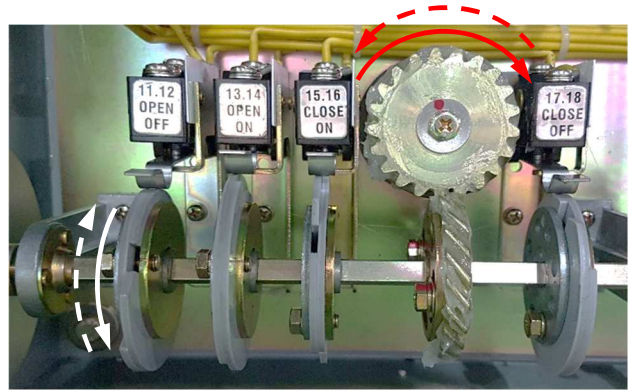

Fig.5 : Position limit switch
(4) Position Limit Switch
- In case that ⑫output shaft drive ⑬cam shaft drive gear, screw gear which is connected to reverse side, ⑭cam shaft rotate output shaft at the same time, and operate micro-switch after rotating equal number of ⑮position limit switch cam which is connected into cam shaft.
- As figure 5 arrangement, arrangement procedure is left contacts point 11-12 (100% position "B" contact point), 13-14 (100% "A" contact point) 15-16 (0% "A" contact point) and 17-18 (0%, "B" contact point)
- In case that output shaft rotate with "CW" direction CAM rotate into line arrow as figure 5.
- In case that output shaft rotate with "CCW" direction CAM and CAM indicator (Note figure-8) rotate into dotted-line arrow as figure 5.